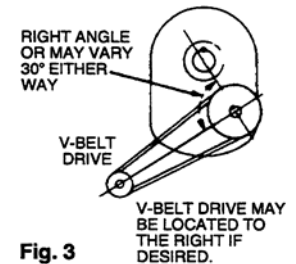

Fig. 3
5. Install motor and V-belt drive so belt pull will approximately be at right angles to the center line between driven and input shaft. (See Fig. 3.) This will permit tightening the V-belt drive with the torque arm.